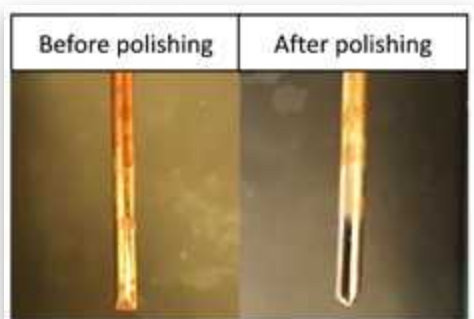

Figure 7E
- j. When the time is complete, push the black button on the board to disable the system. Note: The polished copper rod should look brighter than before (as shown in *figure 7E*).